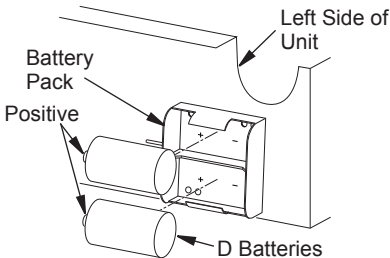

Figure 21 - Installing Millivolt Valve Battery Pack Batteries
1. Locate battery pack on left side of unit (see Figure 21).
2. Install 2 D-cell batteries (not included) into battery housing as shown in Figure 21. Pay close attention to positive (+) and negative (-) markings on battery housing.